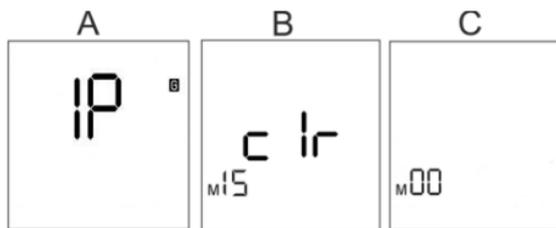

Fig. 11: Delete measurements
- 2) Wait until [c Ir] flashes on the display (Fig. 11 B).
⇒ The acoustic signal sounds 3 times and the display shows *[M00]* (see Fig. 11/C).